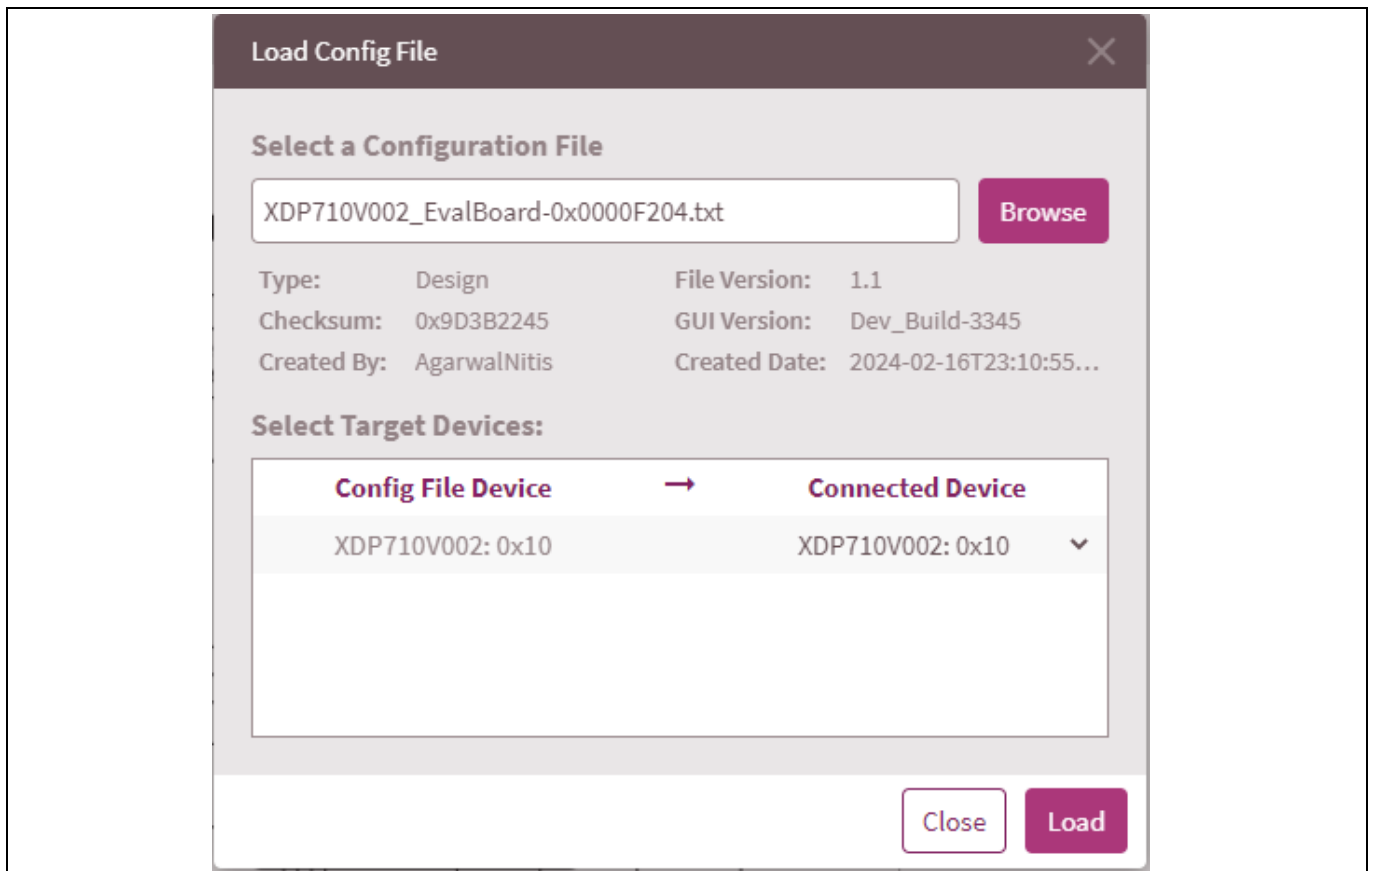

Figure 36 Load the selected configuration file
- click **Load** to load the necessary configuration onto the device, as shown in Figure 36.